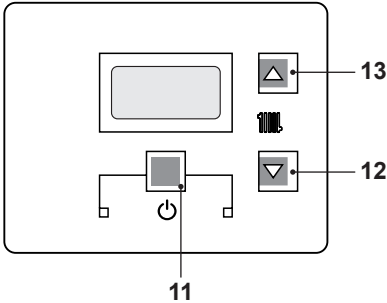
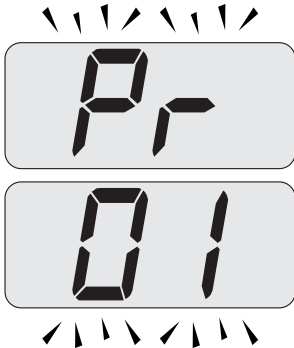
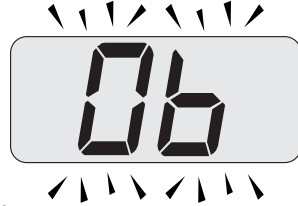

Fig. 7.47
Fig. 7.48
Fig. 7.49
- Enter the "programming mode" by pressing keys 11 - 12 - 13 (Fig. 7.47) for 10 seconds at the same time until the letters **Pr** that alternate with code **01** are displayed on the LCD display, indicating that "parameter 01" (Fig. 7.48) has been activated.
- Press keys 11 and 13 (Fig. 7.47) at the same time until the value of parameter 06 (40=Advance Plus 16S or 41=Advance Plus 25S or 42=Advance Plus 30S) is displayed on the LCD display (Fig. 7.49).
- Press keys 11 and 12 (Fig. 7.47) at the same time to exit without changing the value (return to the parameters list Fig. 7.48).
- Press keys 11 - 12 - 13 (Fig. 7.47) at the same time for 10 seconds to exit the "programming mode".